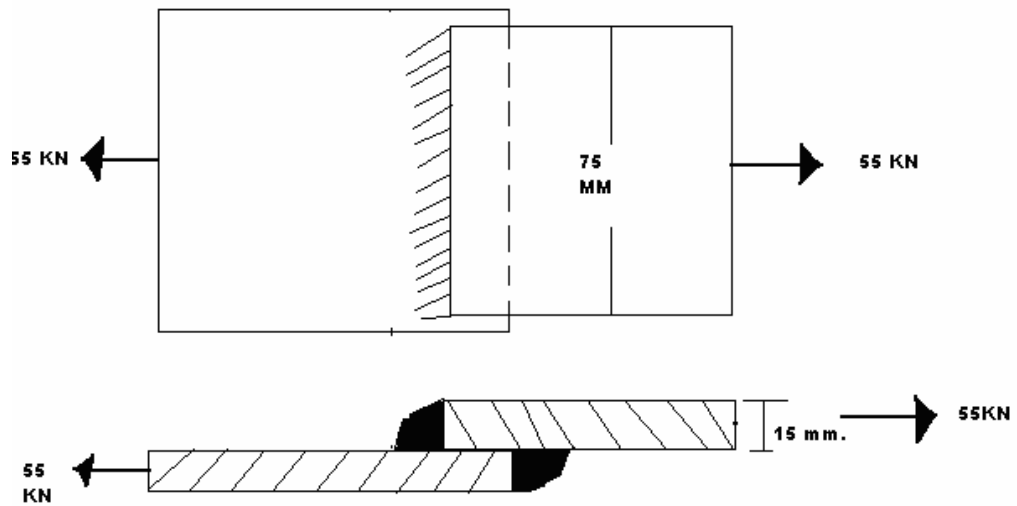

FIG.NO.4
- (b) A structural steel plate 75 mm wide and 10 mm thick loaded statically in tension by a load of 55 kN is welded to a plate with normal ' Transverse Lap Joint' welds as shown in FIG.NO.4 Determine the size of the weld length required to withstand the load. **07**